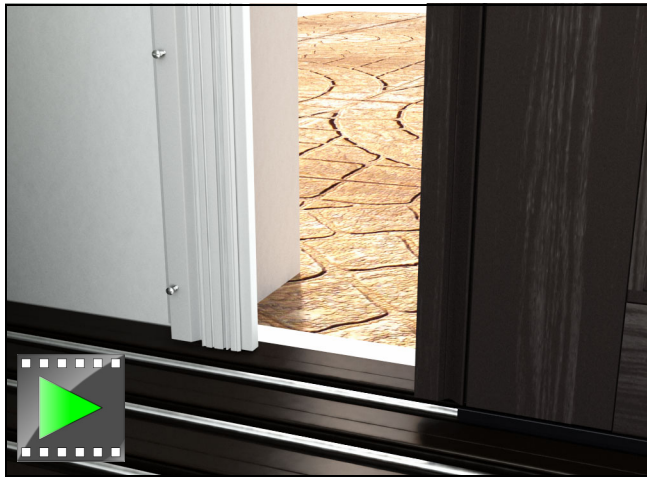

Figure 91
6. Remove pocket support block, and install remaining #8 x 3" black installation screws into pocket interlock. See figure 91.